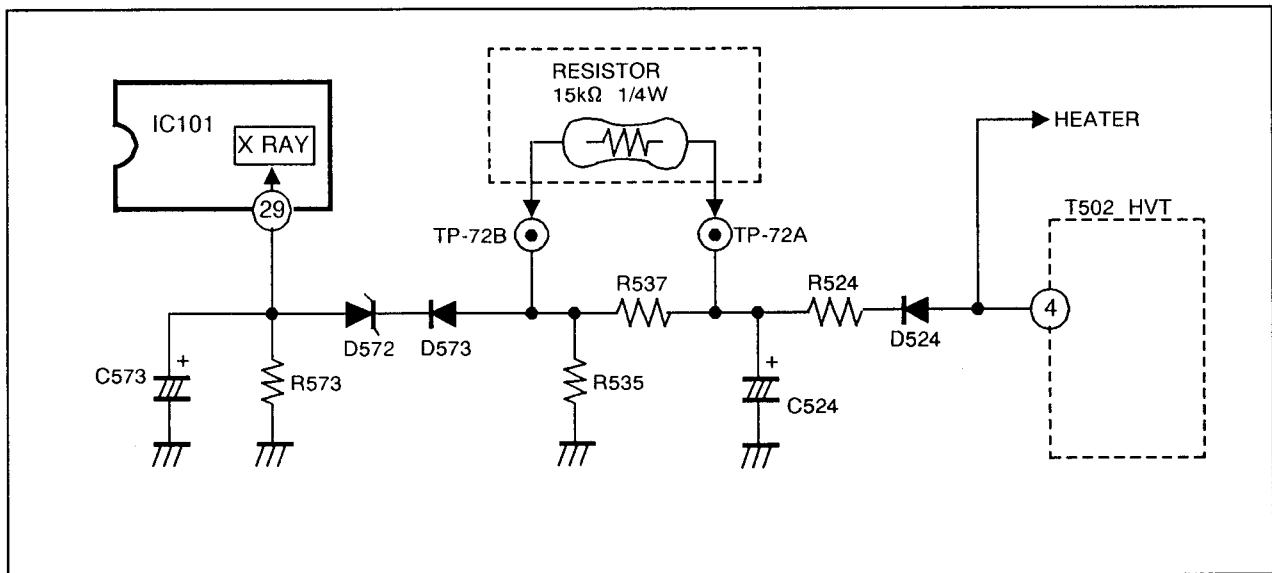

Fig. 1
After repairing of the high voltage hold down circuit shown in Fig. 1.
- (1) Make sure that the power SW is at OFF.
- (2) As shown in Fig. 1, set the resistor (between TP-72A and TP-72B).
- (3) Turn the power SW ON.
- (4) Make sure that the screen picture disappears.
- (5) Turn the power SW OFF.
- (6) Remove the resistor between TP-72A and TP-72B.